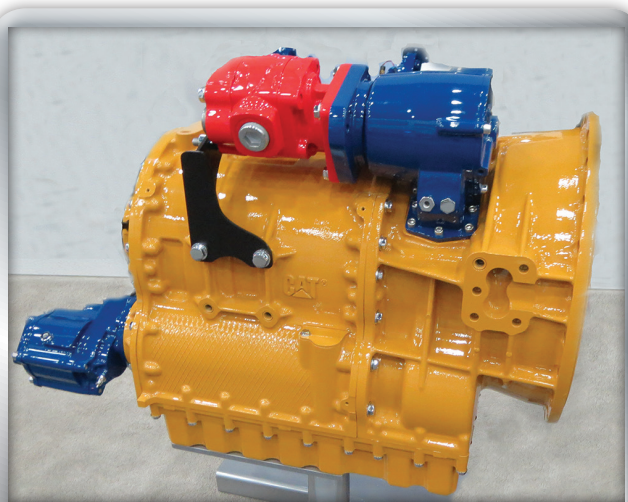

FIGURE 46-93 Caterpillar’s CX-28 Transmission.
- CX28 is a medium-duty, six-speed transmission rated for 400 horsepower (300 kW) with input torque of 1250 foot-pounds (1,770 Nm) **FIGURE 46-93**.